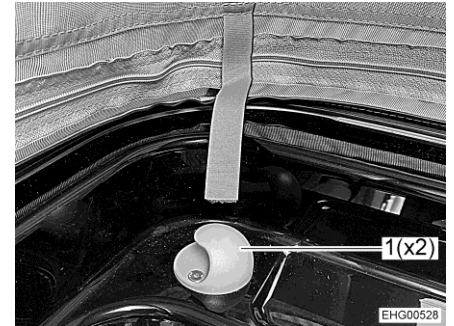

Fig. 74 Holder
- Attach the safety net to the two holders (Fig. 74,1).